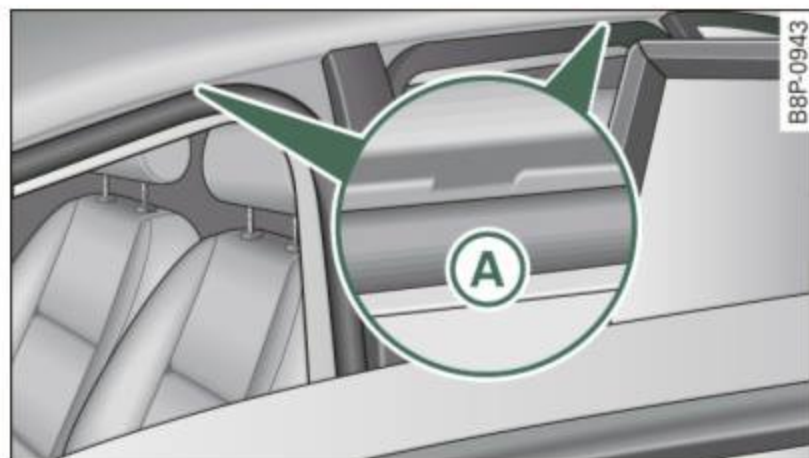
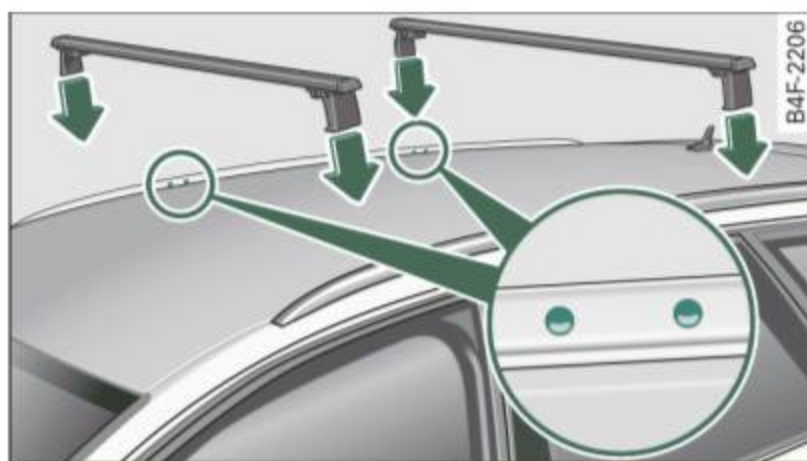

Fig. 88 Attachment points for roof rack
Fig. 89 Roof rails: front and rear mounting locations
- **Only mount the system between the markings shown in ⇒ page 87, fig. 88 or ⇒ page 88, fig. 89.**
The attachment points ⇒ fig. 88 (A) can only be seen with the door open.
- Center the front of the roof rack in the two stamped marks at the front of the roof ⇒ fig. 88 (A), ⇒ ⚠.
- Place the rear of the roof rack in the two stamped marks at the rear of the roof ⇒ fig. 88 (A), ⇒ ⚠.
Mount the front and rear cross bars between the punched markings on the inside of the roof railings ⇒ fig. 89 -arrows-.